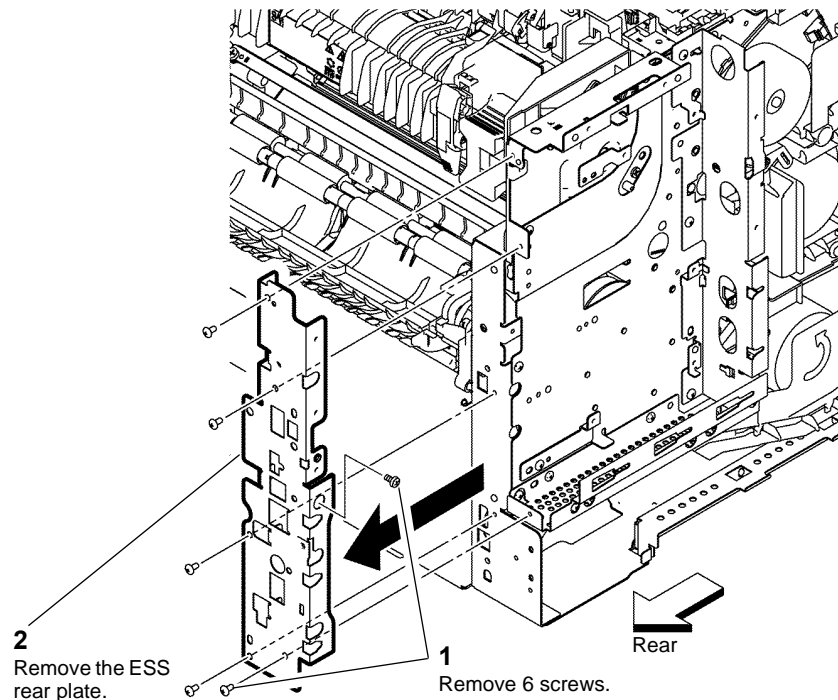

Figure 1 ESS rear plate
6. C400 devices only, remove the ESS rear plate, Figure 1.